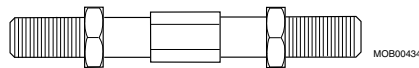
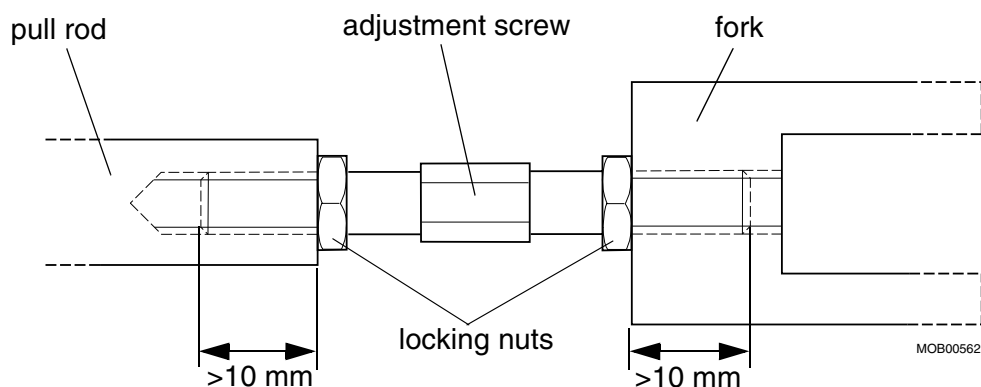

Fig. 34 Adjustment screw
Fig. 35 Mounting of adjustment screw
1. Mount the fork and adjustment screw (Fig. 34) on the pull rod of the new lower arm link (Fig. 35). Place both locking nuts 10 mm in on the threads, mark the position with e.g. adhesive tape.
Make sure the adjustment screw is mounted as shown in Fig. 35. A minimum of 10 mm of the adjustment screw must be threaded in both the fork and the pull rod. If not, the arm and single tank might fall.